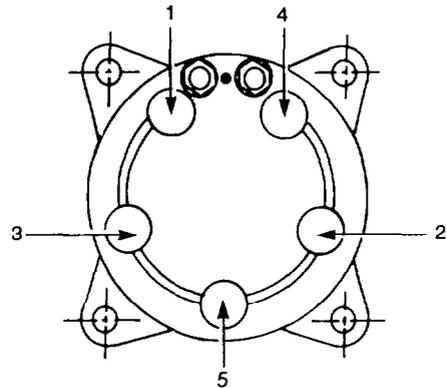

Figure 32 — Cylinder Head — Tightening Sequence
- b. Position the two gaskets, the valve plate and the cylinder head on the locating pins, ensure that the gasket holes align with the oil equalizer and the orifice openings and the hose connecting apertures are correctly positioned, then install the five cylinder head bolts and torque to 30-34 Nm (22-25 lb.ft) in the sequence shown in Fig. 32.